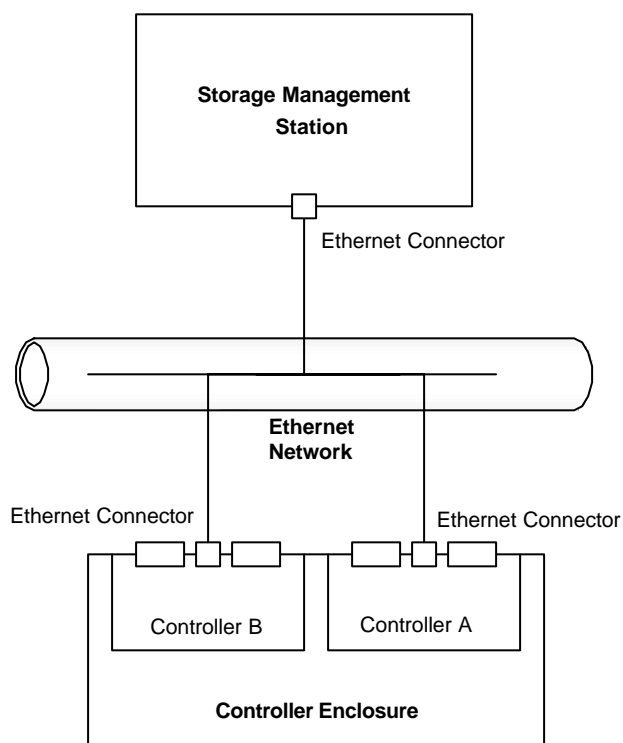

Figure 5-9 Connecting Ethernet Cables
1. To cable the system for direct management via Ethernet, connect a pair of Ethernet interface cables from the storage management station to the Ethernet connectors for controller A (left) and controller B (right) on the rear of the controller enclosure (see Figure 5-9).